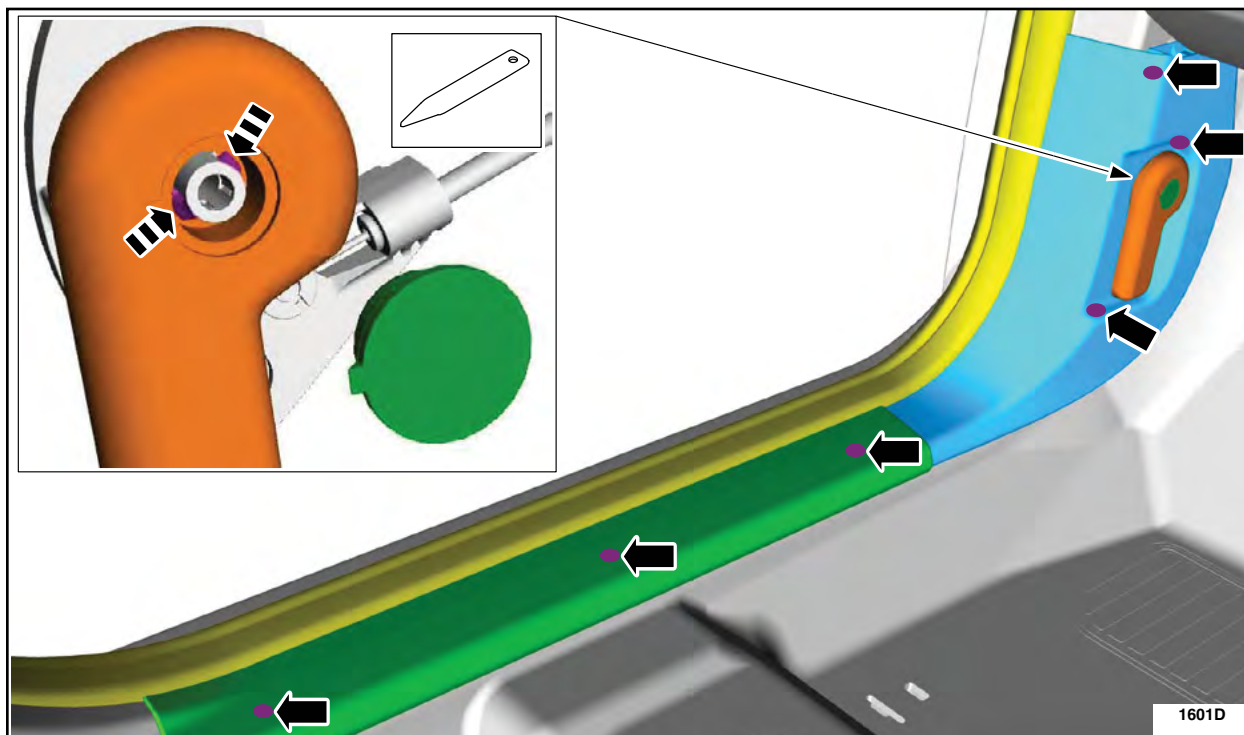

FIGURE 4
1. Remove the hood latch release handle and the LH cowl trim panel. See Figure 4.
12. Install the hood latch release handle and the LH cowl trim panel. See Figure 4.